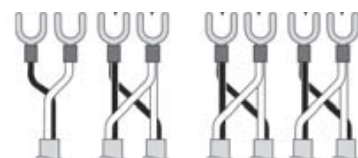

Fig.10
- Cut the spade connectors from two of the controller cables to be connected to the appliance (4 spade connectors should be cut off) and discard. Connect the wires from these two cables and terminate into two new spade connectors as shown in Fig.10. Spade connectors are supplied with the controllers. Repeat steps 4 and 5 above.